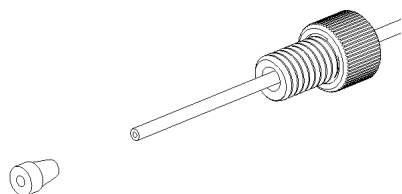

Figure 1
1. Pass the PTFE Tube through the Ratchet nut - Refer figure 1